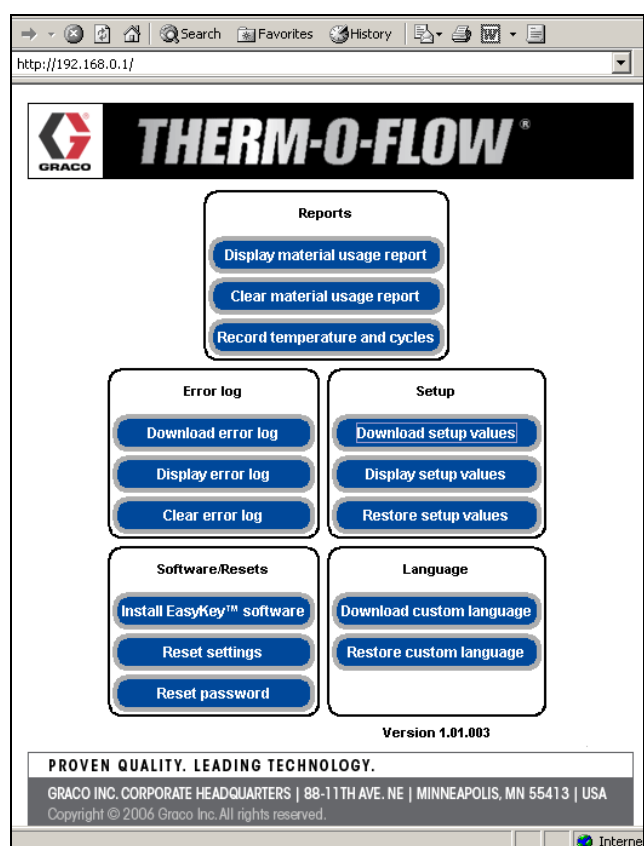

FIG. 32 Main Software Screen
5. Main software screen appears. See FIG. 32.
From the main screen (see FIG. 32) the operator can select buttons for reports, error log, setup, software/resets, or language.